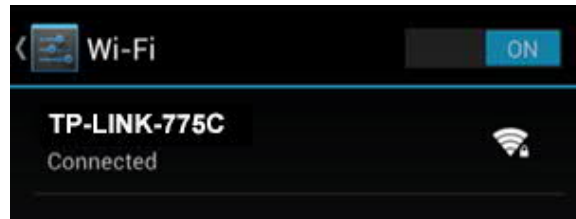

Figure 66: Connectivity Confirmation Screen
6. A verification message appears, showing that the Android device is connected to the router. (Figure 66)